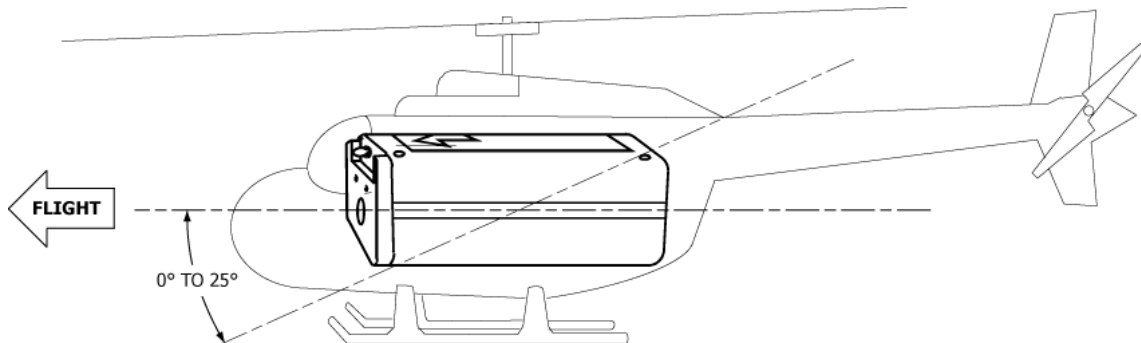

Figure 26 Orientation of ELT for Helicopter Installations
- 1) Mount the C406-1HM ELT parallel to the waterline of the fuselage, along the longitudinal axis, with the direction-of-flight arrow on the ELT pointing forward. See Figure 26.